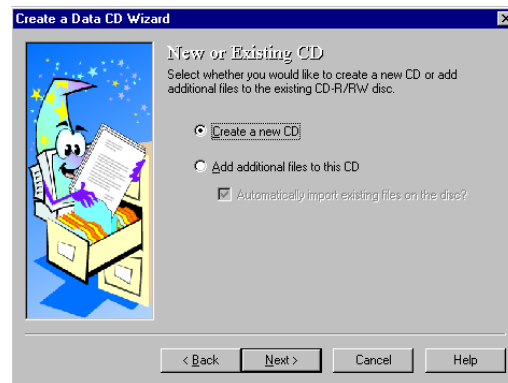

Figure 2
4. At the New or Existing CD window, click on the Create a New CD radio button and then click on the Next button to continue. See Figure 2 above.